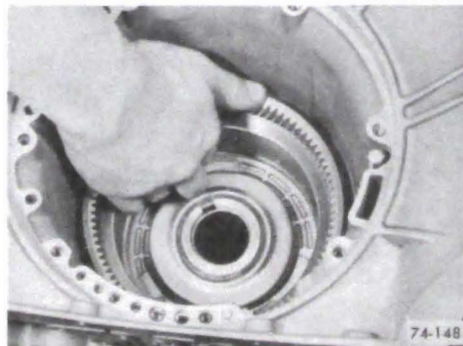

Figure 74-297
2. Install reverse ring gear into case. Turn ring gear to pick up clutch plate splines. See Figure 74-297.